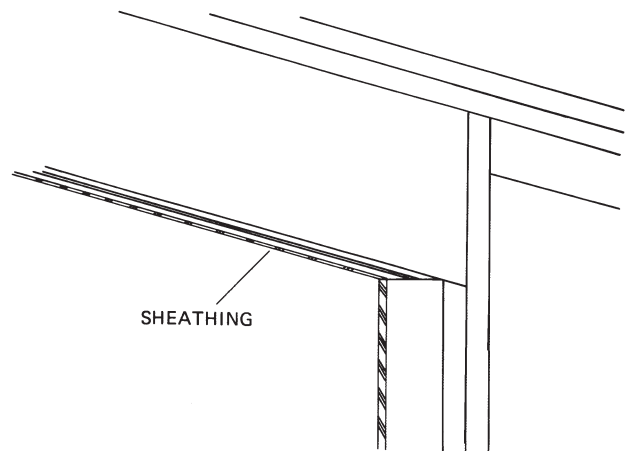

Fig. 9-135 Application of exterior sheathing over the header. (Andersen.)
5. Apply the exterior sheathing (e.g., fiberboard, plywood) flush with the header and jack-stud members (Fig. 9-135).